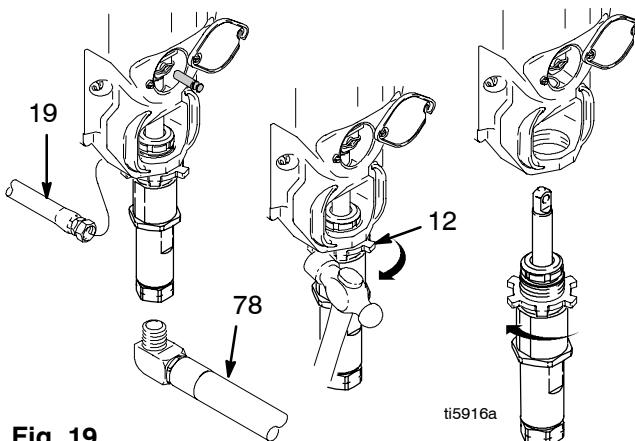

Fig. 19
5. Fig. 19. Remove suction tube (78) and hose (19).
6. Loosen pump jam nut (12). Unscrew pump.